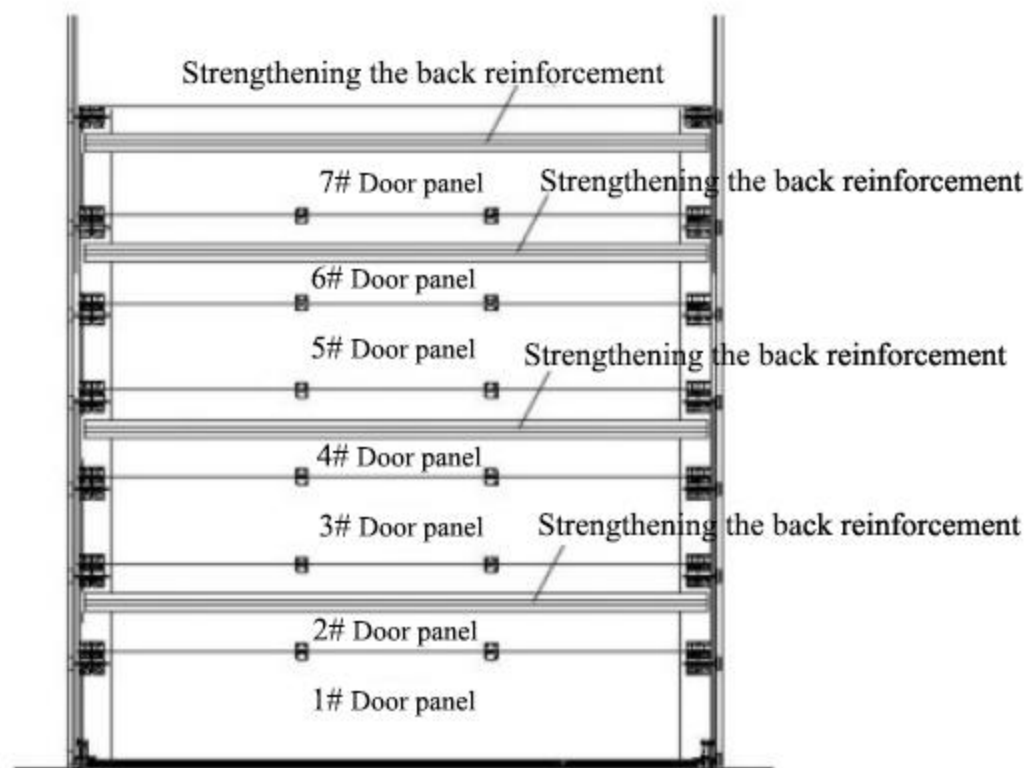

Figure 9-1
9.2 Arrangement of external reinforcing ribs (see the table below and Figure 9-1)